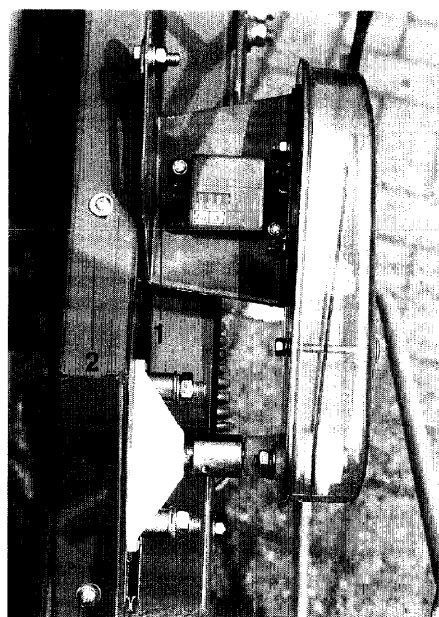

Fig. 103
Before starting operation the hectare meter is put on "0" by turning the set-screw (Fig. 103/1).
- Remove chain guard (Fig. 103/2) of the swivelable drive arm.
- Reinstall chain guard (Fig. 103/2).